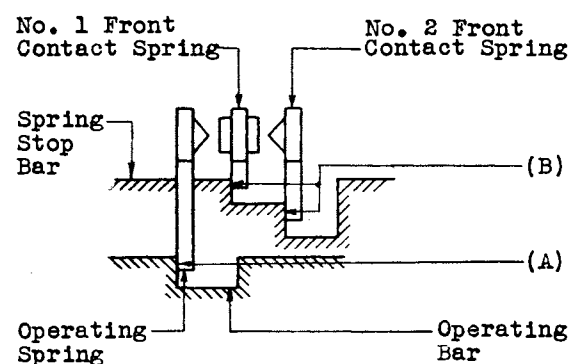

Fig. 14
- 1 - Fig. 14 (A) - Operating Spring Tang against the stud or side of the notch in the operating bar nearer the cam roller shall be
- 2 - Fig. 14 (B) - Nos. 1 and 2 Front Contact Spring Tangs against the side of the notch in the spring stop bar nearer the cam roller shall be: